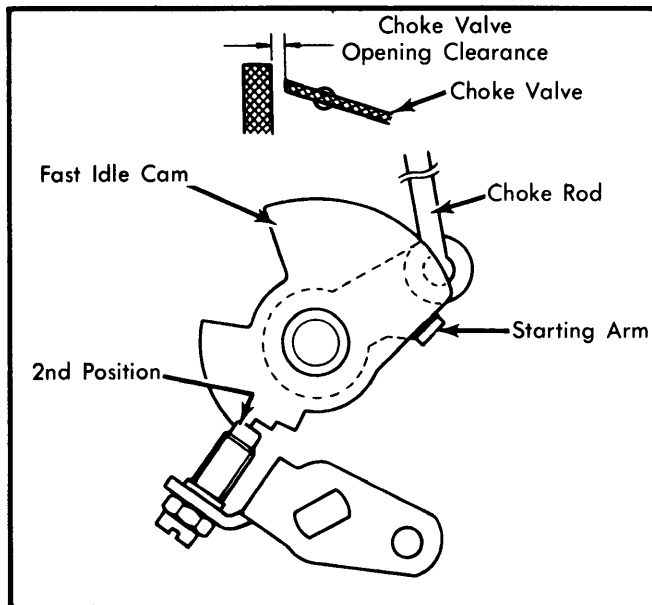

Fig. 3 Adjusting Choke Valve Opening Angle
1) Place fast idle screw on 2nd step of fast idle cam. See Fig. 3. Adjust choke valve opening clearance by bending starting arm. If a large adjustment is necessary, bend choke rod.